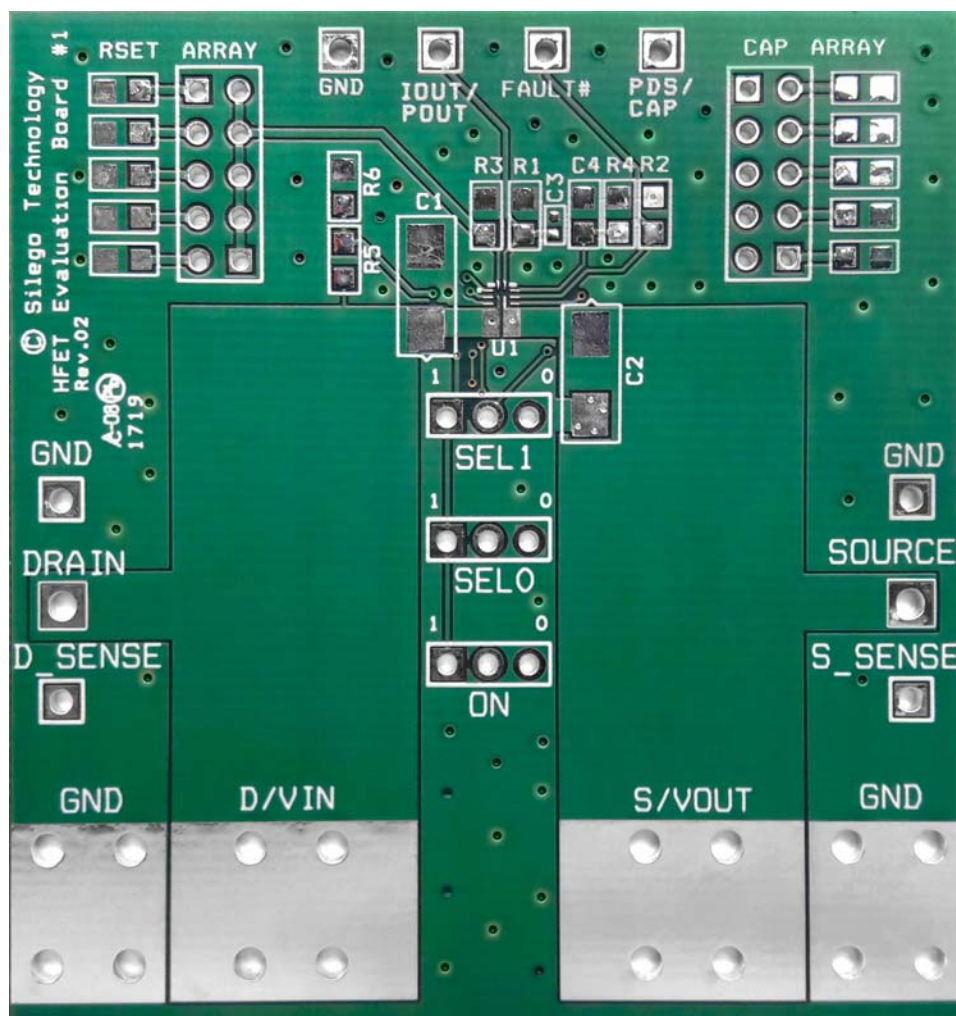

Figure 43. SLG59H1019V Evaluation Board
1. Since the VIN and VOUT pins dissipate most of the heat generated during high-load current operation, it is highly recommended to make power traces as short, direct, and wide as possible. A good practice is to make power traces with absolute minimum widths of 15 mils (0.381 mm) per Ampere. A representative layout, shown in Figure 43, illustrates proper techniques for heat to transfer as efficiently as possible out of the device;
A HFET1 Evaluation Board for SLG59H1019V is designed according to the statements above and is illustrated on Figure 43. Please note that evaluation board has D_Sense and S_Sense pads. They cannot carry high currents and dedicated only for RDS_{ON} evaluation.